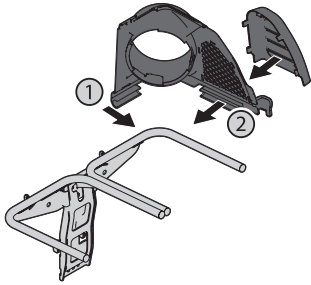

Figure 9
2. Snap the plastic upper chute support in place by first clipping the side portion onto the bagger support rail (1) as shown in Figure 9.
3. Snap the front side of the chute support to the rail (2) as shown in Figure 9.